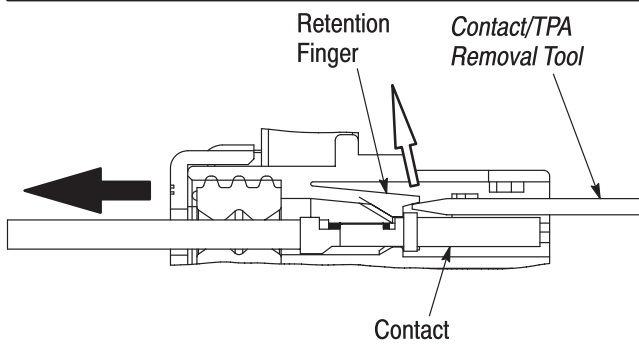

Figure 11
5. Insert the tip of the contact/TPA removal tool into the contact cavity and deflect the contact retention finger. Gently pull the wire until the contact is free from the housing. Repeat this procedure for the remaining number of contacts to be removed. See Figure 11.